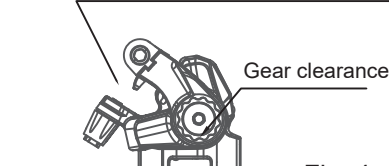

Fig. 4
- (a) When the brake pads are worn too thin, the manner to compensate the wear by tightening the inner cable is not allowed in case of affecting the normal brake operation (If the inner cable is inappropriately over-tightened, the pull rod will be too close to the caliper force arm, and the pull rod will lose the motion range required for normal braking, and thereby ails the braking function shown in (Fig. 4)).